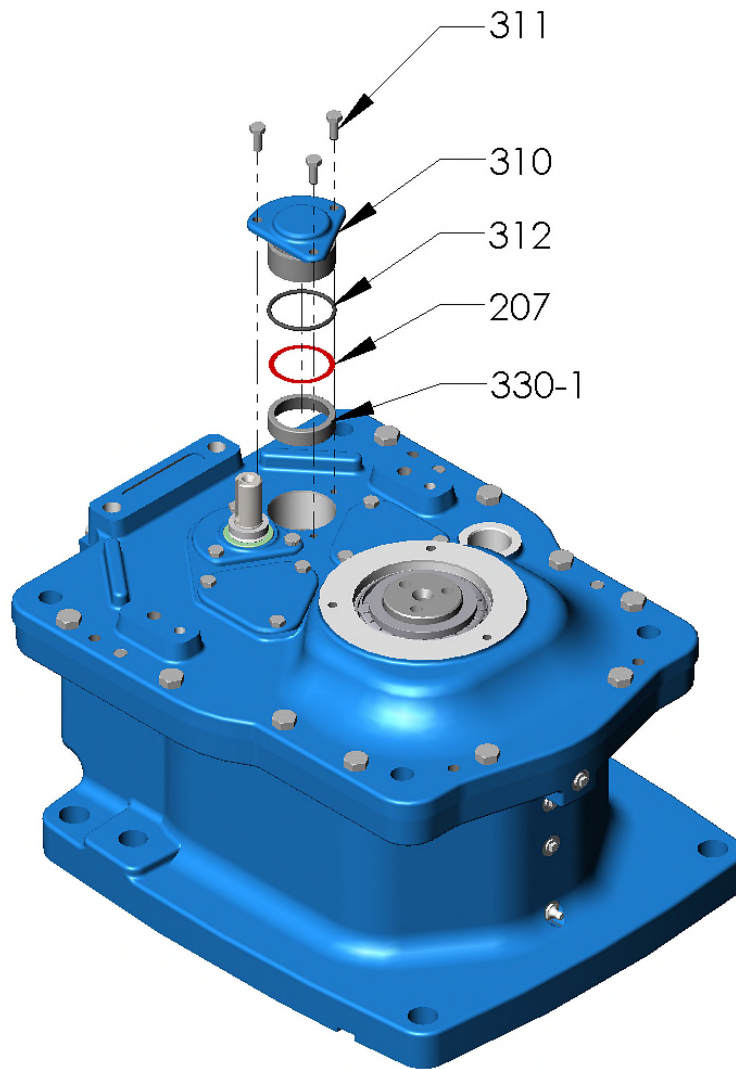

Figure 23 – 1st Intermediate Cap
- U. At 1st intermediate shaft, install following items (refer Figure 23):